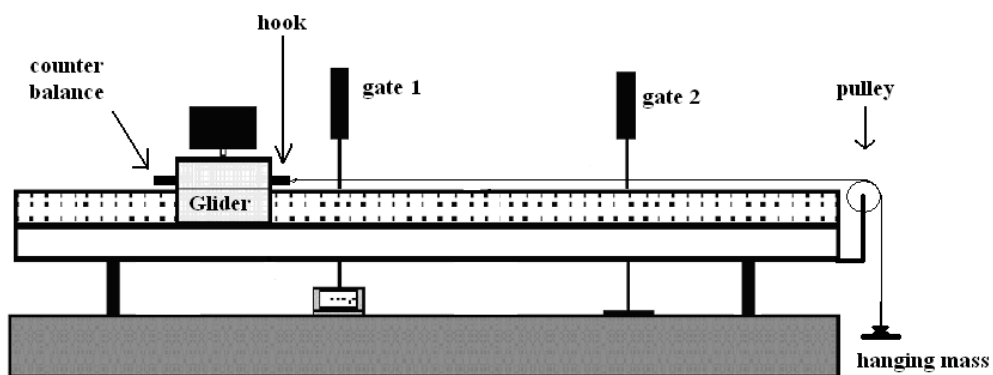

Figure 4.2: Diagram of the apparatus
1. Set up the air track as shown in Figure 4.2. With the hanging mass disconnected from the glider and the air supply on, level the air track by carefully adjusting the air track leveling feet. The glider should sit on the track without accelerating in either direction. There may be some small movement due to unequal air flow beneath the glider, but it should not accelerate steadily in either direction.